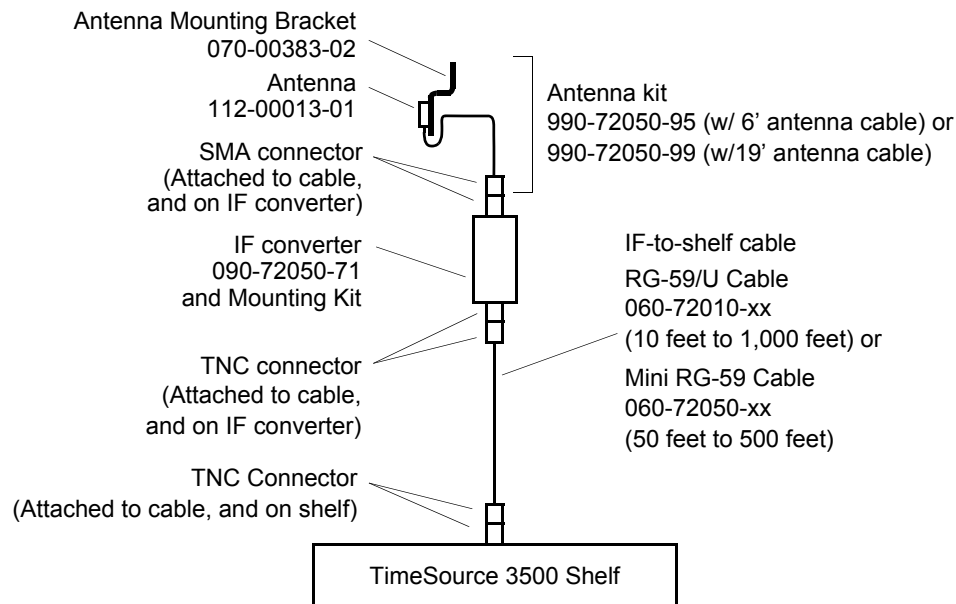

Figure 3-12. Wall Antenna-to-Shelf Cabling
To mount the antenna through the wall, refer to Figure 3-12 and perform the following procedure.
1. Attach the IF downconverter (Figure 3-12) inside the building to a suitable wall or other structure. Be sure the distance along the cable route between the IF converter and the antenna is no more than 6 ft. or 19 ft depending on wall antenna length used. Include allowances for the drip loop and local company procedures for cable routing.